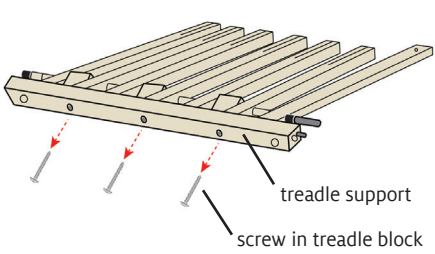

FIGURE 6: REMOVE THE TREADLE BLOCKS
- 11.** Remove the screws attaching the treadle blocks (**TB**) to the treadle support, as shown in Figure 6. Set aside the treadle support.